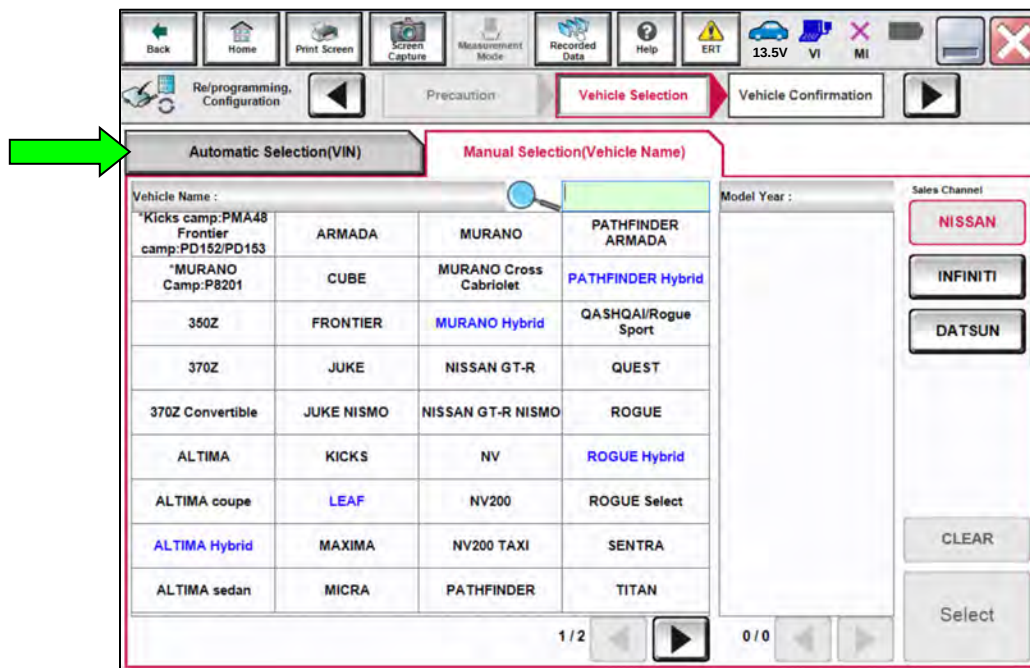

Figure 41
57. Select **Automatic Selection(VIN)** (Figure 41).